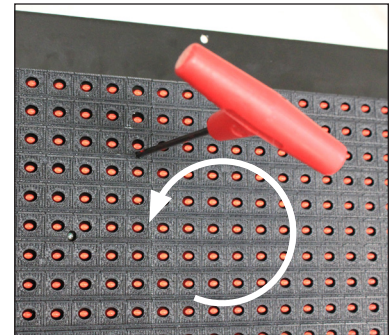

**Figure 2:** Device Manager > Ports (COM & LPT)
4. Go into **Device Manager > Ports (COM& LPT)**, and make a note of the **COM** number of the adapter. Refer to **Figure 2**. This number will vary based on the USB port into which the adapter is connected.
**Note:** If the USB end of the Update Harness (**Figure 1**) was disconnected from the laptop, be sure to re-connect to same USB port. Otherwise, find the new COM port number (**Figure 2**).